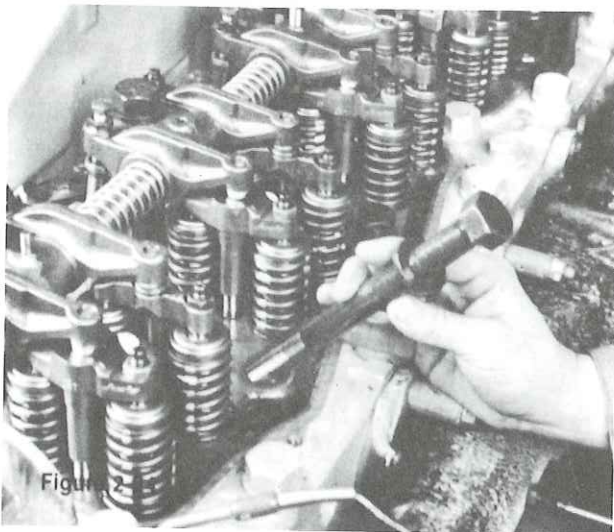

Figure 2-24
1. Fig. 2-24 shows the Caterpillar head bolt to be removed for installation of the Jacobs support bracket.